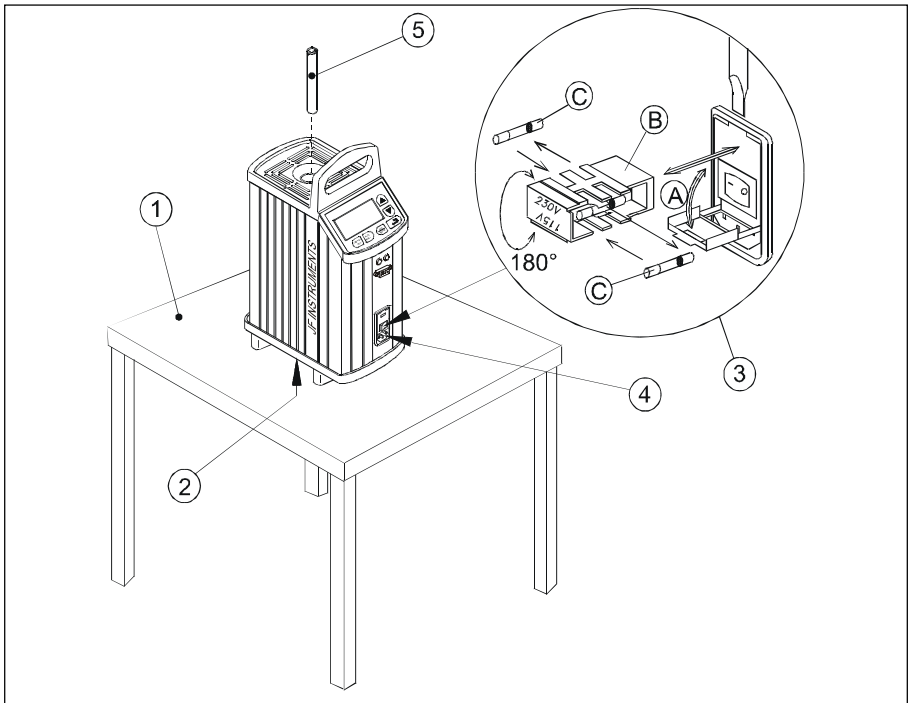

Fig. 1
- ② ensure a free supply of air to the ventilator located at the bottom of the instrument.
- ③ check the voltage of the power control switch (on/off switch (230V/115V)). If the voltage of the power control switch differs from the line voltage, you must adjust the voltage of the power control switch as follows (see Fig. 1):
- ④ check that the earth connection for the instrument is present and attach the cable.
- ⑤ select an insertion tube with the correct bore diameter. See section 3.3 for information on how to select insertion tubes.